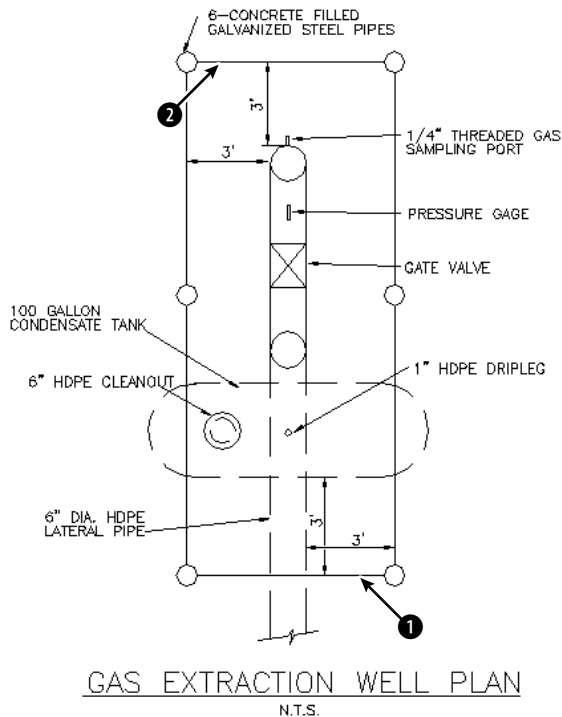

Figure 9-3: The gas extraction well schematic.
2. Save the file as `ab09-01.dwg` in your AutoCAD Bible folder. This drawing is a schematic of a gas extraction well, shown in Figure 9-3.
3. To erase the line at point ❶ of Figure 9-3, move the mouse until the pickbox at the intersection of the crosshairs is anywhere over the line. The line thickens and is dashed. Click the line. Now the line is dashed and displays grips.
6. At the `Select objects:` prompt, pick the line at point ❷ in Figure 9-3.